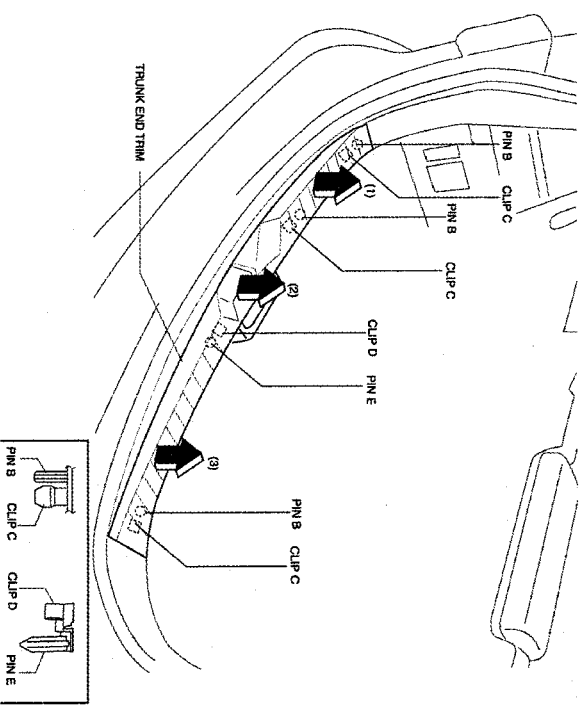

FIGURE 39
- 2.) PULL IN THE DIRECTION OF ARROWS (1), (2), AND (3) AND REMOVE PINS B, CLIPS C, CLIP D AND PINS E. (SEE FIGURE 39)